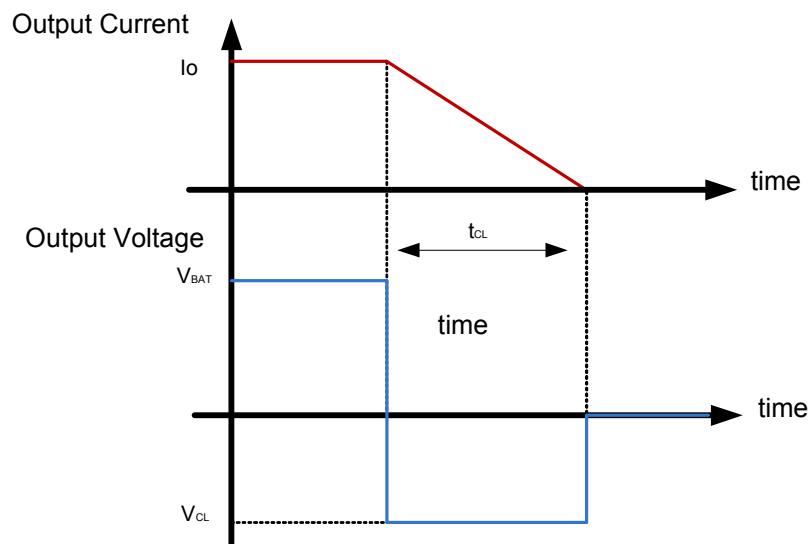

Figure 22. Simplified negative output clamp waveform
In case of an inductive load (L), the energy is dissipated after the turn-off inside the N-channel MOSFET. When $t_{CL} (=I_o \times L/V_{CL}) > 1.0\text{ ms}$, the turn-off waveform can be simplified with a rectangle as shown in Figure 22.